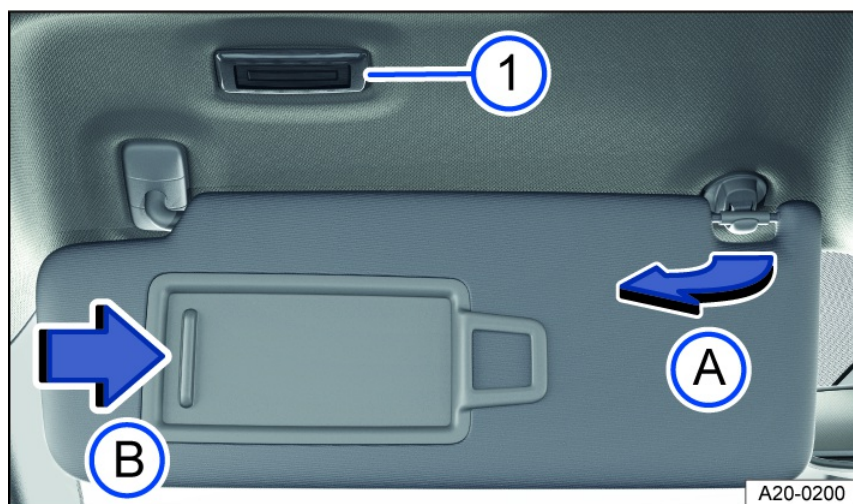

Fig. 80 In the front of the headliner: sun visor.
- Remove from the holder and tilt toward the door *fig. 80*.
1. To open, push the cover in the direction of the arrow *fig. 80*.
The light *fig. 80* comes on when the cover is pushed open.